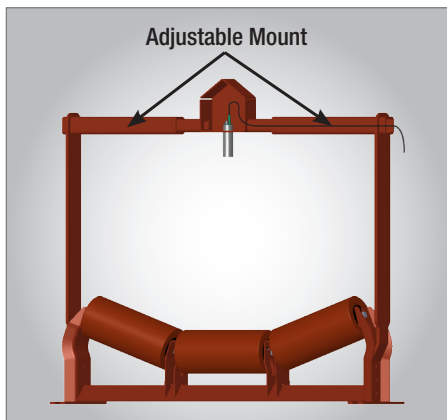

Fig 22.1 Adjustable Mount per Belt Width
- ▶ Adjust to custom belt widths (Fig 22.1)